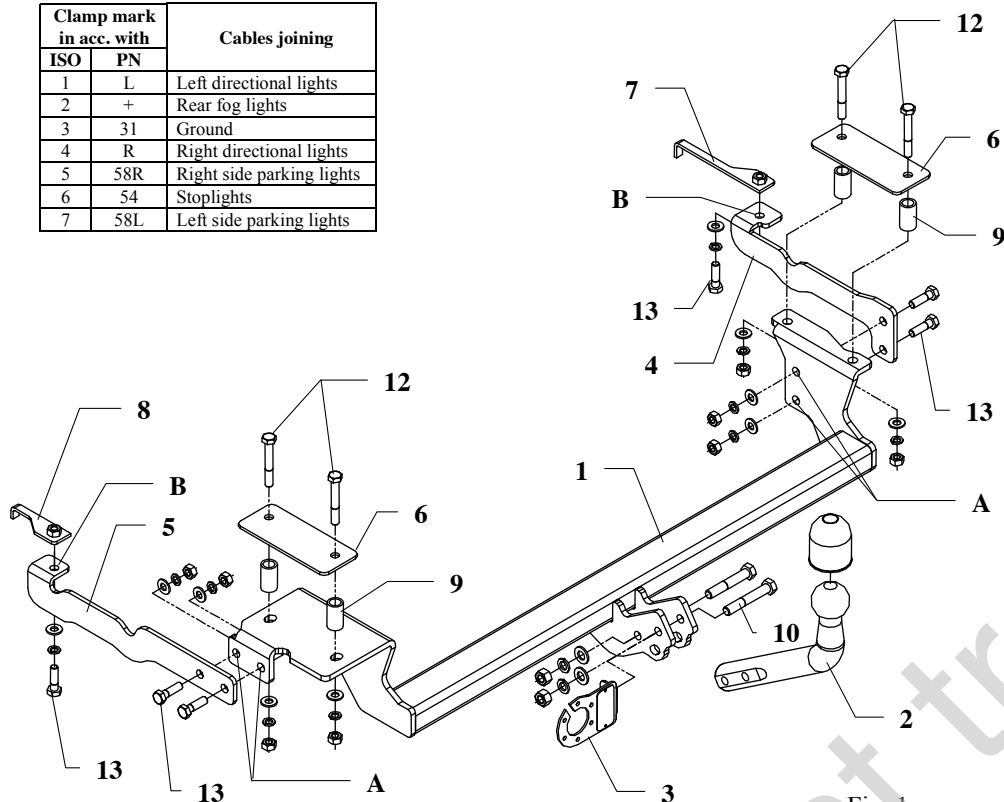

Fig. 1
- On prominent bolt put main bar of the towbar (pos. 1) and fix loosely.
- Fix side brackets (pos. 4 and 5) as show on the drawing using bolts $M10 \times 35\text{mm}$ (pos. 13) through holes A. Fix by bolts $M10 \times 35\text{mm}$ (pos. 13) through holes B with jibs (pos. 7 and 8). Jibs place inside chassis frames through longitudinal holes.
- Fix tow ball (pos. 2) using bolt $M12 \times 75\text{mm}$ (pos. 10) and $M12 \times 70\text{mm}$ (pos. 11). With bolt $M12 \times 75\text{mm}$ fix also a socket plate (pos. 3). See figure 1.